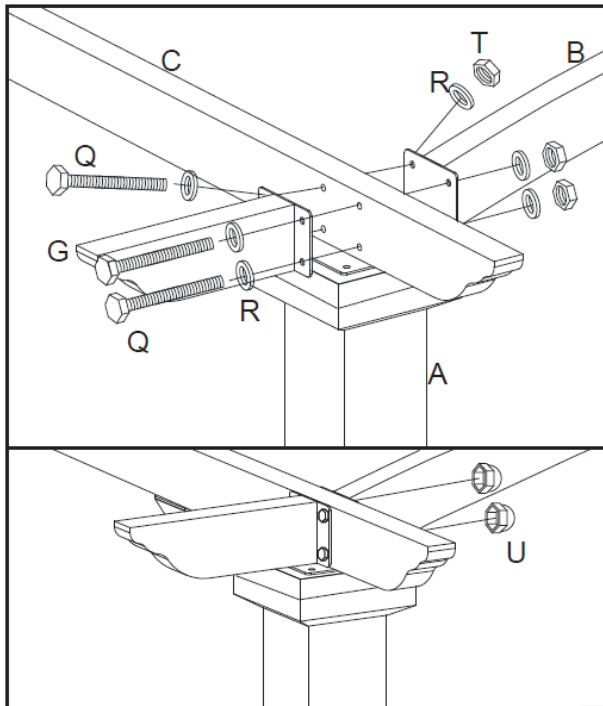

Figure 5-1
Step 5A: Connect the assembled Curved Top Beam (B) with the Short Lintel End (G) through the holes of the assembled Outside Lintel (C) using Bolts (Q), Washers (R) and Nuts (T). See Figure 5-1. Repeat for opposite side.